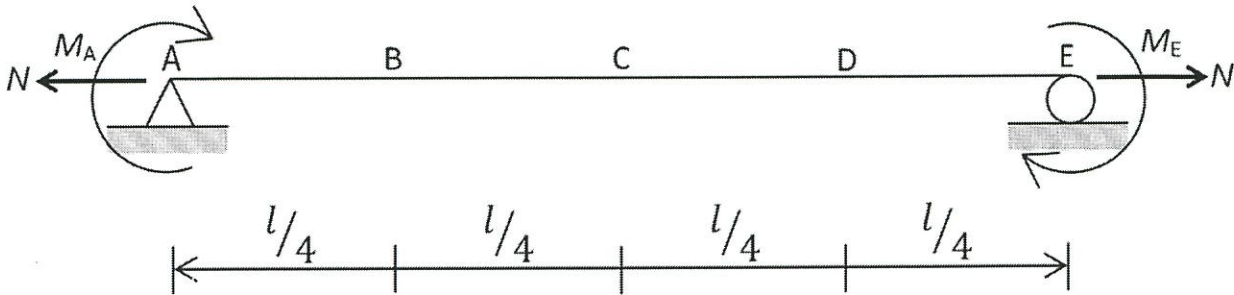

FIGURE Q3
- Q3** In mathematical and analytical field, super positioning method is often used to ease the derivation of equations. Same goes to structural analysis, this process was done by Castagliano, Timoshenko, Euler etc. to the realization of structural equations we are using today. Based on the Free Body Diagram (FBD) shown in **FIGURE Q3**, the beam is applied with an Axial Load N kN and Edge Moments M_A kNm and M_B kNm. The length of the beam is L m and the Bending Stiffness EI is constant. Answer the followings.
- (a) Describe and illustrate all possible combinations of the principle of superposition involved to form the configuration shown in **FIGURE Q3**. (6 marks)
- (e) Describe **TWO (2)** other cases that apply this principle in civil engineering. (2 marks)